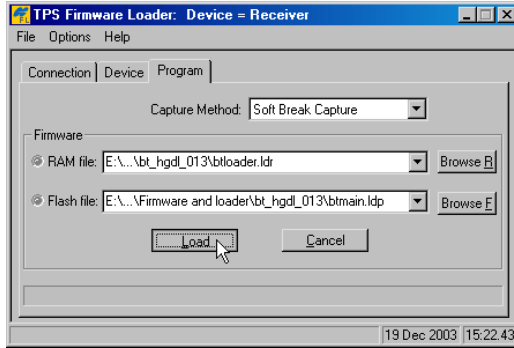

Figure 4-19. Program Tab Settings
2. Click the **Program** tab and set the *Capture Method* to "Soft Break Capture" (recommended) (Figure 4-19 on page 4-27).
3. Browse for and select the Bluetooth module's RAM file and Flash file (Figure 4-19 on page 4-27).